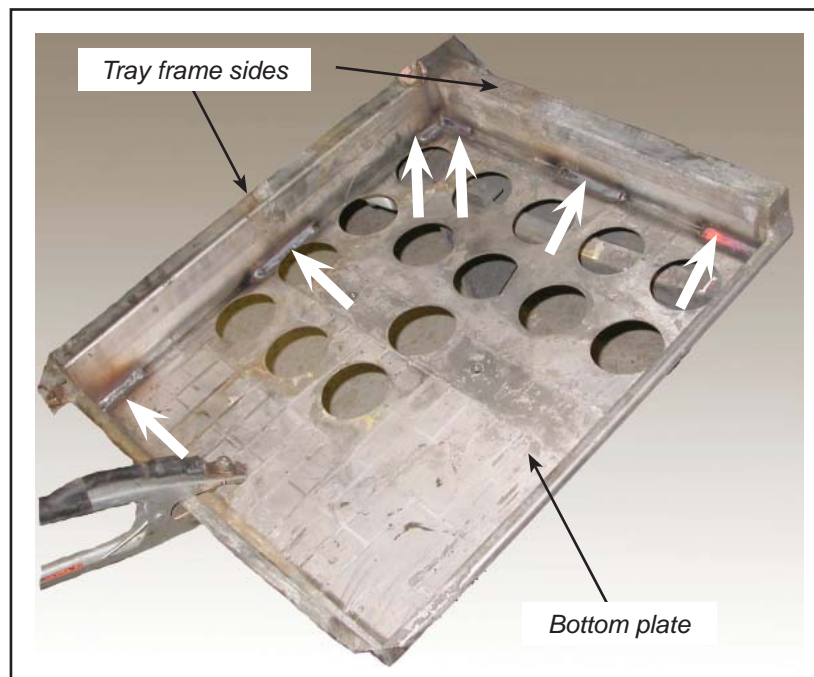

Figure 6 - Three Bead Welds per Pivoting Tray Frame Side (Six in All)
- 2.9. Make three small welds approximately two inches long on both sides of the pivoting tray frame. Make the welds on the inside of the tray. See Figure 6.